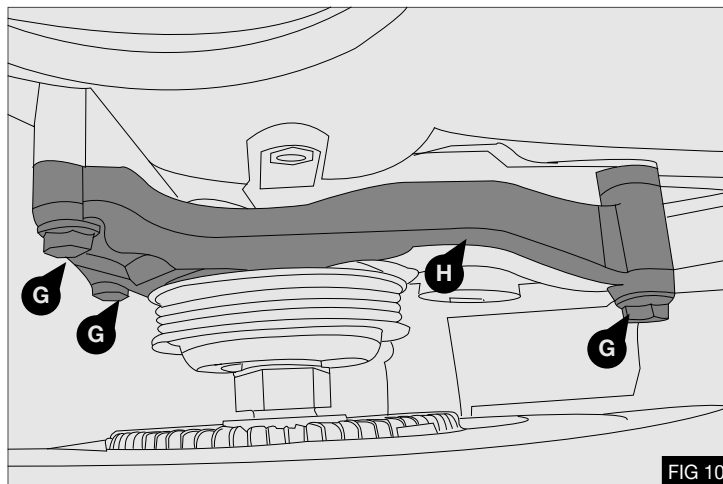
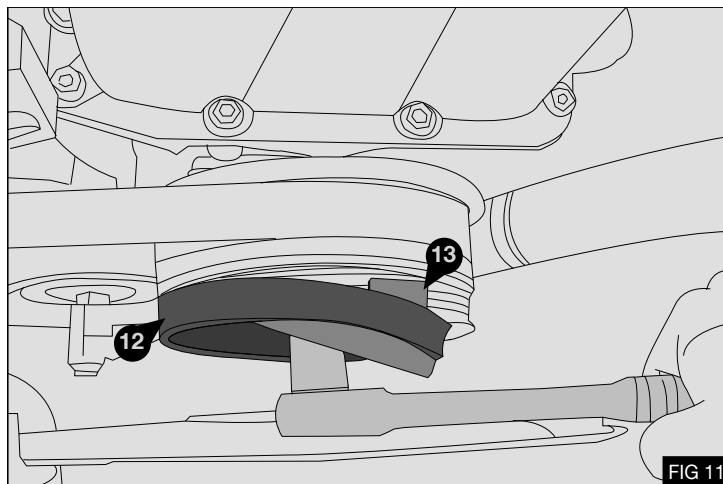

FIG 10
FIG 11
- Remove the three original bolts (G) securing the viscous fan bracket (H) to the engine - Fig.10
- Carefully feed one side the supplied drive belt (13) between the rear of the viscous fan bracket and the engine, loop the belt around the bracket and onto the viscous fan pulley.
- Re-fit the viscous fan bracket to the engine using the original three bolts (G).
- Torque bolts (G) to 50Nm / 37lb.ft + 90 degrees
- Lay drive belt (12) on the viscous fan pulley. Mount the poly-V belt fitting tool (13) (not supplied) on the crank pulley and place the belt (12) over the top of it - Fig.11
- Turn the engine 180 degrees in a clockwise direction using a 19mm double hex tool on the main crankshaft bolt whilst guiding the belt onto the crankshaft pulley. Check for correct belt location in both of the pulleys and remove the poly-V belt fitting tool (13) (not supplied).